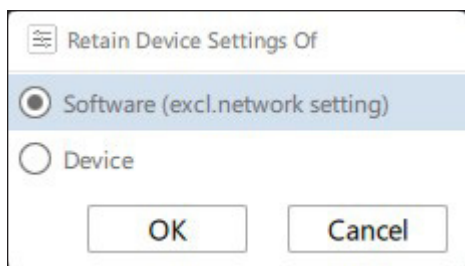

Figure 16. Retain Device Settings Of Dialog Box
- a. Click and drag each discovered device in the **Unsynced Devices** window to the corresponding model in the **Device List**. The **Retain Device Settings Of** dialog box opens (see figure 16 on page 8).